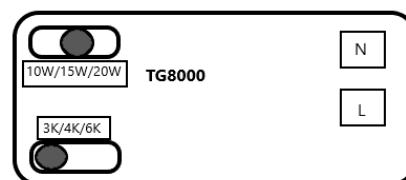

Fig. 1
6. Terminate the mains supply cable ensuring correct polarity is observed: Brown – Switched Live (SL), Blue – Neutral (N), Brown to Permanent Live (Emergency only) (PL), Green/Yellow – Earth. The earth terminal is non-functional and only provided for convenience. Two cables can be inserted into the push-fit terminal block in order to achieve loop-in/loop-out wiring.
7. Select the colour temperature (3000K, 4000K, 6000K) and power (10W/15W/20W) by toggling the switches on the LED driver. (see Fig. 1)